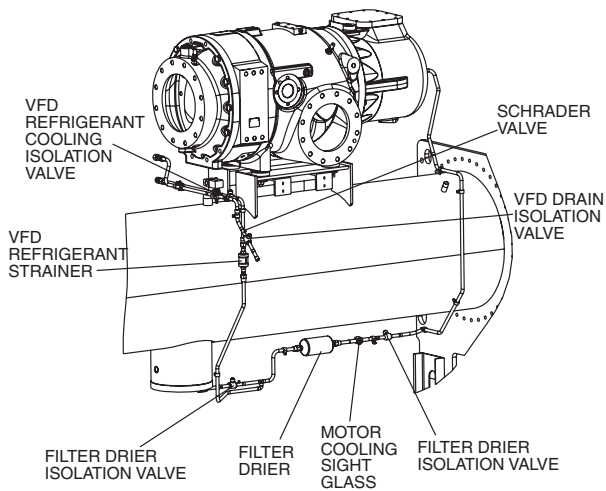

Fig. 22 — VFD Refrigerant Isolation Valves (Q,R Compressors Only)
1. For Q and R compressors, close the 2 filter drier isolation valves (Fig. 22) and the 2 VFD isolation valves. Isolate the refrigerant charge into the condenser to prevent a refrigerant leak if one of the motor terminals is accidentally damaged during VFD removal or installation. For Q and R
compressors, evacuate the VFD coldplate through the Schrader valve (Fig. 22) on the VFD drain isolation valve.